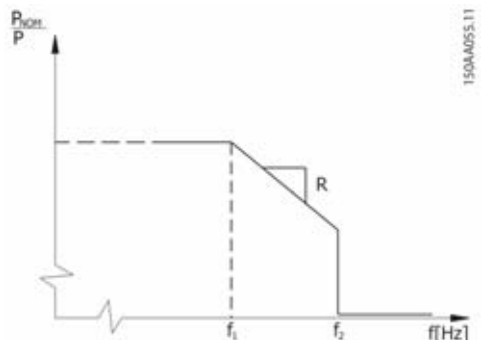

Figure 2.9 Primary frequency control - ramp method
See figure 2.9.
The inverter reduces output power if the grid frequency exceeds f_1 . Reduction occurs at a preconfigured rate which is the ramp (R) shown in figure 2.9. When the frequency reaches f_2 , the inverter disconnects from the grid. When the frequency decreases below f_2 , the inverter is reconnected to the grid and increases power at the same rate as for the reduction.